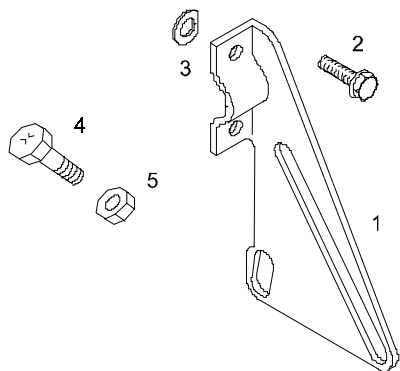

Figure 1: Kit Components
1. Using a 3/16 inch (or equivalent) bit, drill two holes for the blade arm (item 1 in Figure 1). For best results:
- 16-gauge blade: Use the two #12-24 x 1/2 inch hex-head, self-tapping screws (item 2 in Figure 1) and the modified washers (item 3 in Figure 1).
- Double-piece blade: Use the two #12-24 x 1/2 inch hex-head, self-tapping screws (item 2 in Figure 1).
- Airfoil blade: Use the two #10-32 x 1-1/4 inch hex-head screws (item 4 in Figure 1) and two #10-32 hex nuts (item 5 in Figure 1).